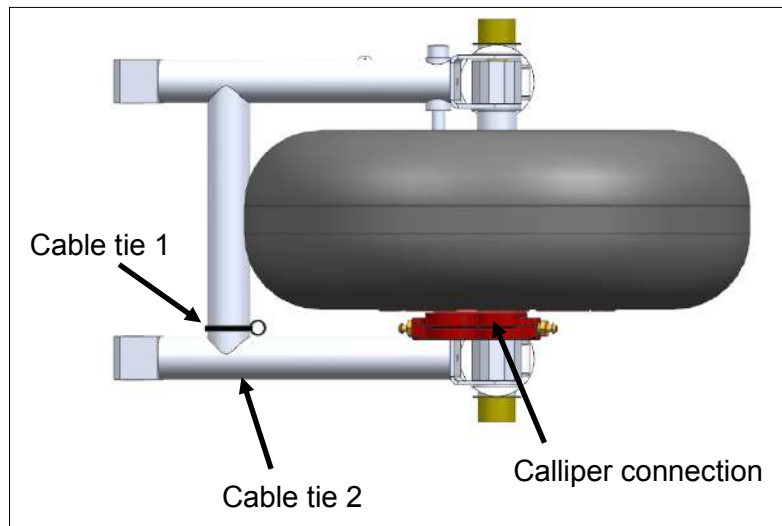

Figure 32-66: Brake tie-down locations
12. Apply the cable ties as shown in Figure 32-66. Tie one cable tie loosely around the crossbar. Secure the flexible hose (105 03 004 00) to the first cable tie with a second cable tie, and then secure the first cable tie to the landing gear arm.